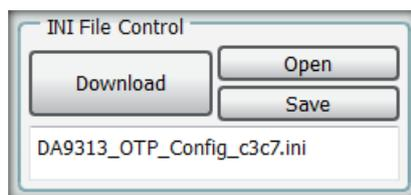

Figure 21: INI File Control
The **INI File Control** window, see Figure 21 allows the loading of .ini file formatted project files to the main interface registers by pressing the **Download** button. The **Open** button will load the chosen file path ready for download to the device. The **Save** button will save the main interface register values of the related OTP registers as an .ini formatted file.
8. Open the **.ini** configuration file using the DA9313 SmartCanvas **INI File Control Open** control, see Figure 21.